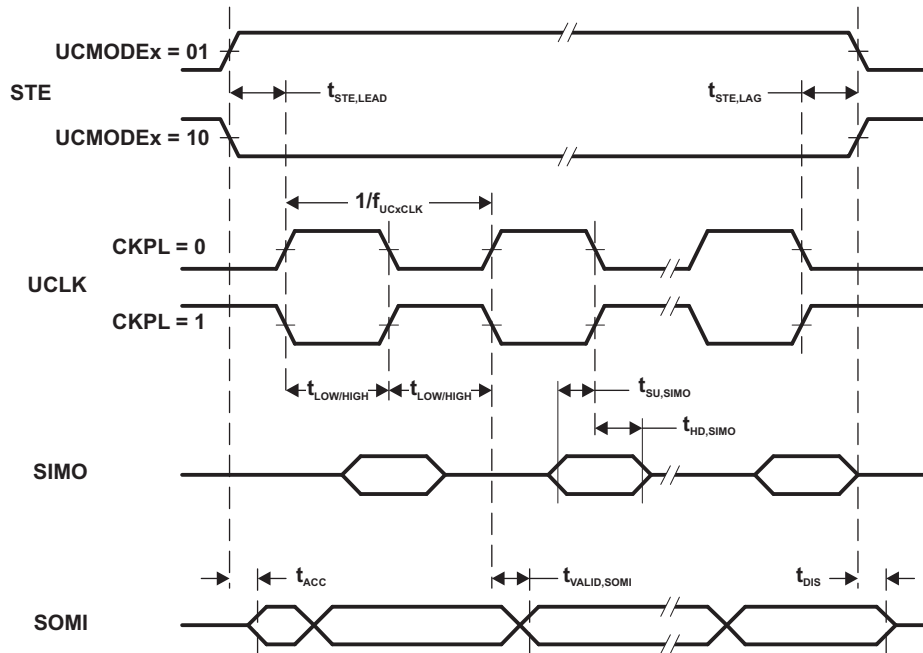
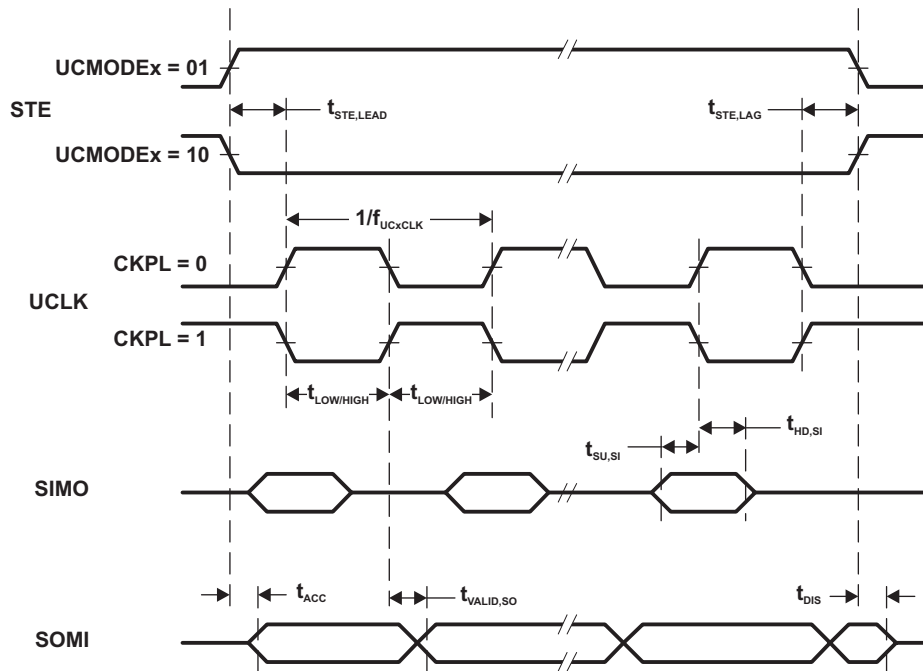

Figure 15. SPI Slave Mode, CKPH = 0
Figure 16. SPI Slave Mode, CKPH = 1
- (1) $f_{UCxCLK} = 1/2t_{LO/HI}$ with $t_{LO/HI} \geq \max(t_{VALID,MO(Master)} + t_{SU,SI(eUSCI)}, t_{SU,MI(Master)} + t_{VALID,SO(eUSCI)})$. For the master's parameters $t_{SU,MI(Master)}$ and $t_{VALID,MO(Master)}$ refer to the SPI parameters of the attached slave.
- (2) Specifies the time to drive the next valid data to the SOMI output after the output changing UCLK clock edge. See the timing diagrams in Figure 15 and Figure 16.
- (3) Specifies how long data on the SOMI output is valid after the output changing UCLK clock edge. See the timing diagrams in Figure 15 and Figure 16.